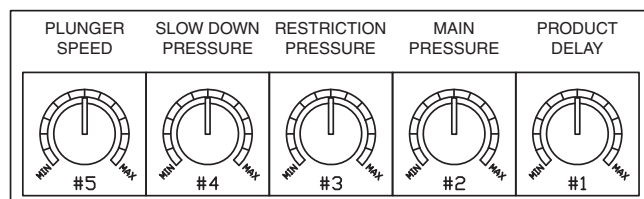

Figure 29. Potentiometer
1. Adjust RESTRICTION PRESSURE Pot #3 to approximately 300 psi (see Figure 29 on page 14). It may be necessary to adjust this pressure up or down to successfully build a plug.
The Potentiometer (see Figure 29) located in the control box has 5 adjustments; Product Delay, Main Pressure, Restriction Pressure, Extend Slow Pressure, and Extend Slow Speed.